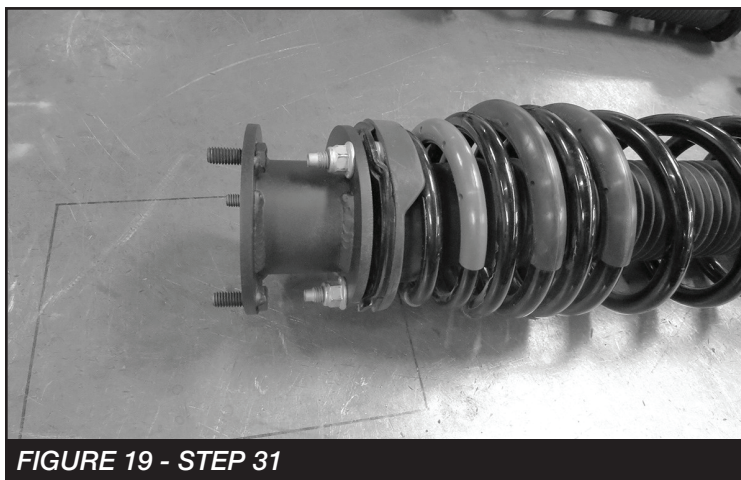

FIGURE 19 - STEP 31
31. Install FT31000 (Rear strut spacer) onto the top strut mount using the factory nuts. **NOTE: The smaller side of the angle should be installed on the front side. (Resi side). SEE FIGURE 19**